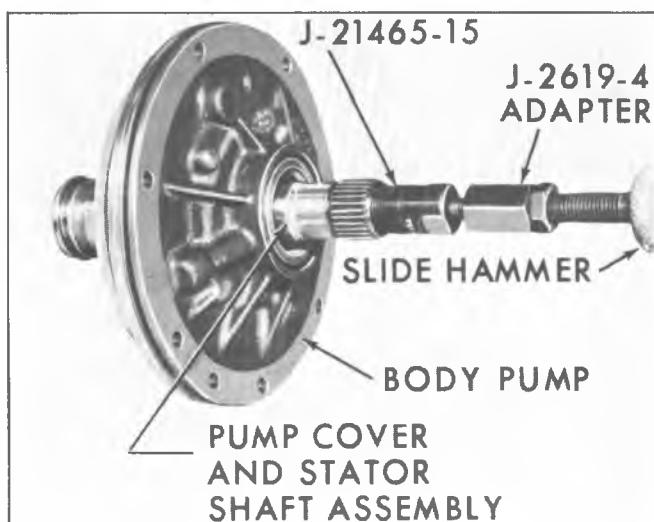
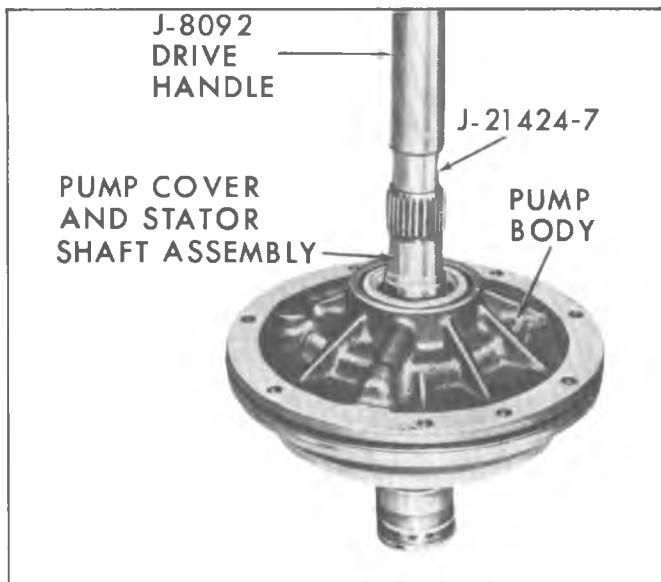
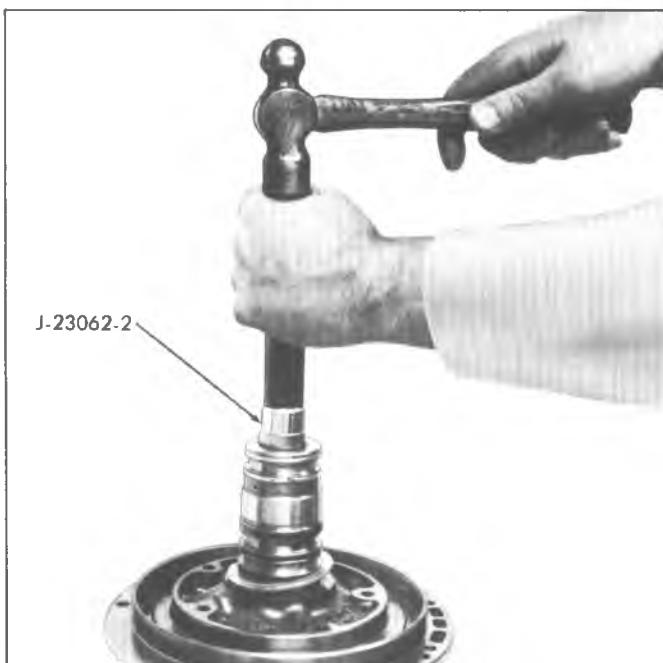

Fig. 96M-Removing Stator Shaft Front Bushing
Fig. 97M--Installing Stator Shaft Front Bushing
Fig. 98M--Installing Inner and Outer Stator Shaft Bushing
With stator shaft properly supported, remove front bushing using tool J-21465-16 and slide hammer with adapter J-2619-01 (fig. 96M). Using tool J-21424-7 and drive handle J-8092, install bushing to .250" from face (fig. 97M).
With stator shaft properly supported, remove front bushing (fig. 98M). Place tool J-21424-7 and drive handle J-8092 with extension J-21465-13 through front of stator shaft and drive out two (2) rear bushings. Using tool J-23062-2 and extension J-21465-13, install inner bushing to approximately 1-5/32" below front face and
outer bushing 3/32" below front face (fig. 98M). Install new front bushing (fig. 97M).